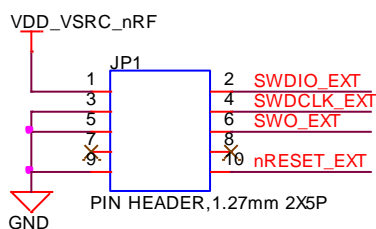

Figure 7: BL654 development board schematic
**Note:** Reference on the BL654 development board schematic (Figure 7) shows the DVK development schematic wiring only for the JTAG connector and the BL654 module JTAG pins.
JTAG is required because Nordic SDK applications can only be loaded using the JTAG (*smartBASIC* firmware can be loaded using JTAG as well as over the UART). We recommend that you use JTAG (2-wire SWD interface) to handle future BL654 module firmware upgrades. You **must** wire out the JTAG (2-wire SWD interface) on your host design (see Figure 7, where the following four lines should be wired out – SWDIO, SWDCLK, GND and VCC). *smartBASIC* firmware upgrades can still be performed over the BL654 UART interface, but this is slower than using the BL654 JTAG (2-wire SWD interface) – (60 seconds using UART vs. 10 seconds when using JTAG).
Laird recommends you use JTAG (2-wire interface) to handle future BL654 module firmware upgrades. You MUST wire out the JTAG (2-wire interface) on your host design (see Figure 7, where four lines should be wired out, namely SWDIO, SWDCLK, GND and VCC). Firmware upgrades can still be performed over the BL654 UART interface, but this is slower (60 seconds using UART vs. 10 seconds when using JTAG) than using the BL654 JTAG (2-wire interface).